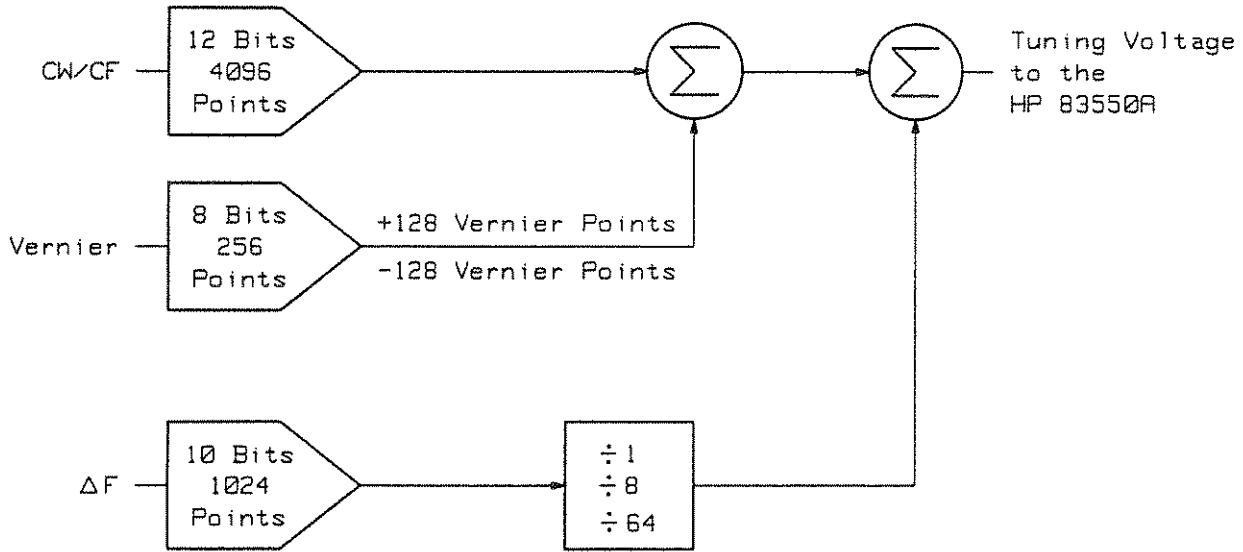

Figure 3-1. Simplified Tuning Voltage Block Diagram
Figure 3-1 is a simplified block diagram of the frequency tuning circuits in the HP 8350. The net tuning voltage results from the summation of the three DAC outputs. With this DAC configuration the START/STOP sweep mode is computed by the microprocessor into a center frequency (CF) and a ΔF sweep width. Therefore the operation of all sweeps are set with a center frequency and sweep width. The center frequency is specified by the center frequency (CF) DAC and the vernier DAC, and the sweep width is determined by the ΔF DAC.